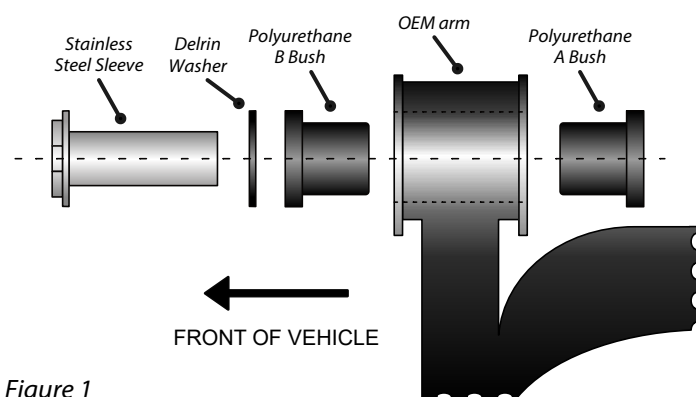
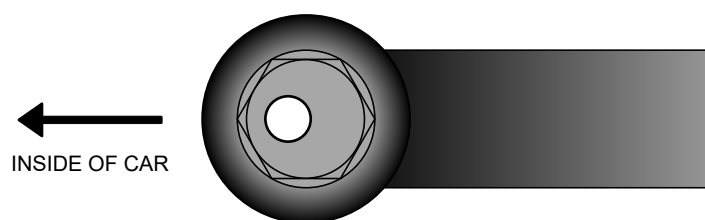

Figure 1
Figure 2: Sleeve position for maximum negative camber (-0.5°)
4. Press the bush into the arm in the orientation shown in Figure 1.
6. Assemble the sleeve and washer as in Figure 1, and push them into the bush in the orientation shown in Figure 2. This is the configuration for most negative camber.